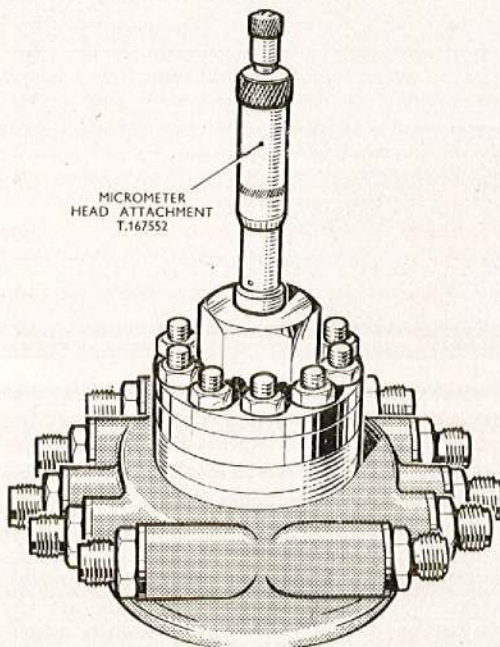

Fig. 4. Port calibration micrometer adapter
53. Screw in the fuel inlet adapter complete with seal to the spring housing inlet port. A slave spring housing may be used if available, when the housing and adapter may be kept assembled permanently. Assemble the housing to the distributor body, fit the micrometer setting tool T.167552 to the distributor body cover plate (fig. 4) and secure with slave nuts and washers, using the box spanner T.177125. Adjust the micrometer to its extended position.